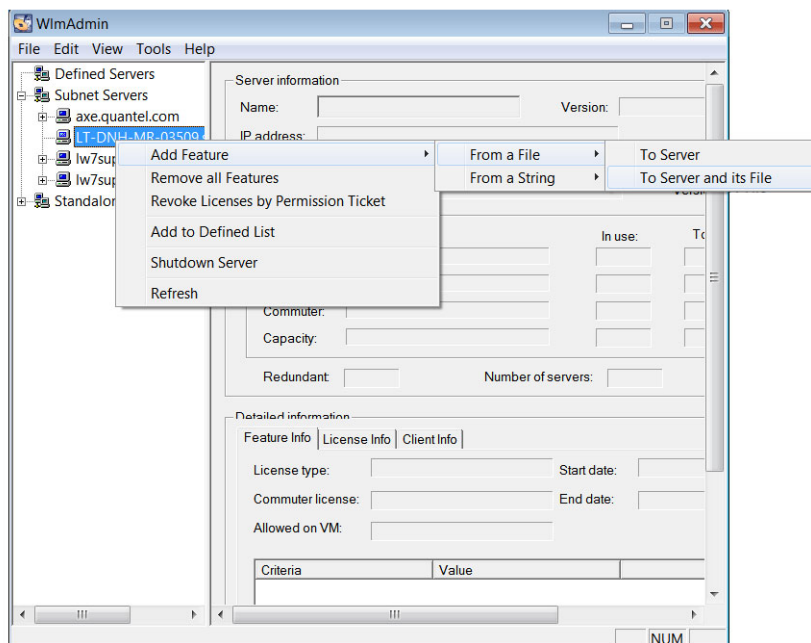

Fig. E-33: Add Feature
- Right-click on the license host PC item and click on **Add Feature > From a File > To Server and its File**, see Figure E-33.